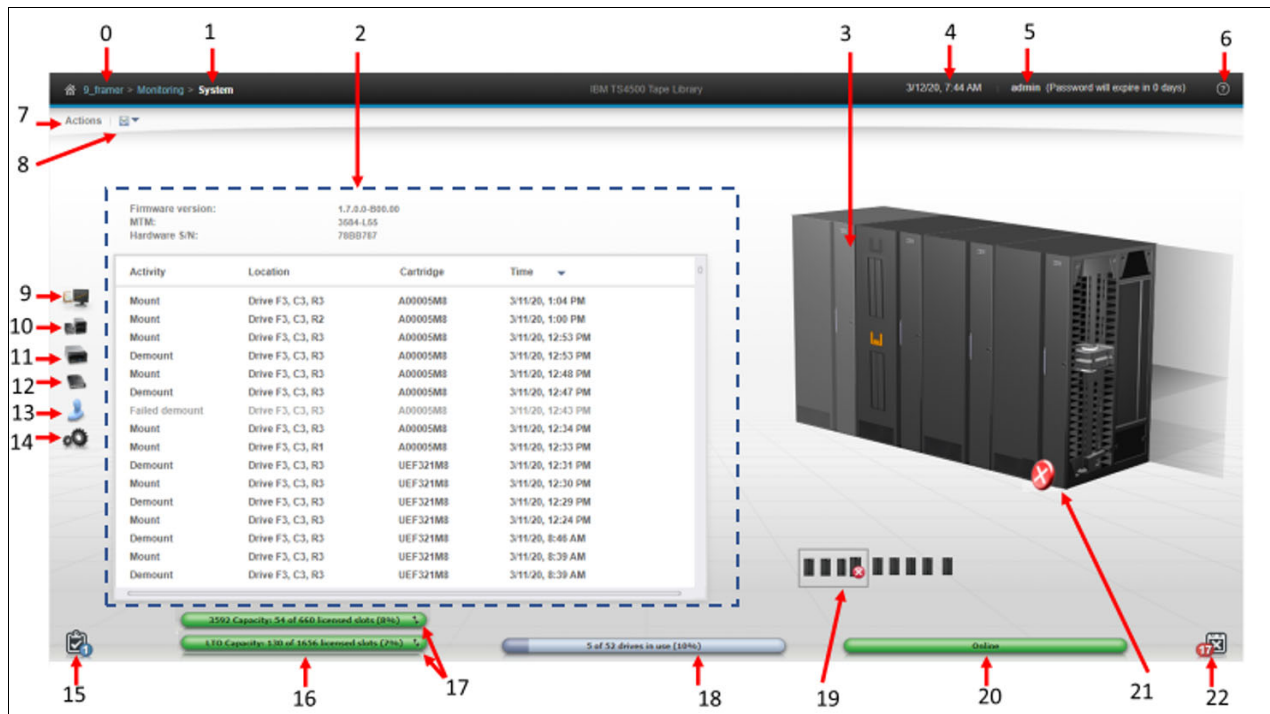

Figure 4-10 System summary display
After login, the system summary window is shown, as in Figure 4-10.
For more information about the Management Interface (MI) and the available functions, use the question mark (?) icon or **Help**, which is number 6 in Figure 4-10.
Table 4-3 lists the fields that are shown in the window. The numbers in Table 4-3 refer to the numbers that are shown in Figure 4-10.